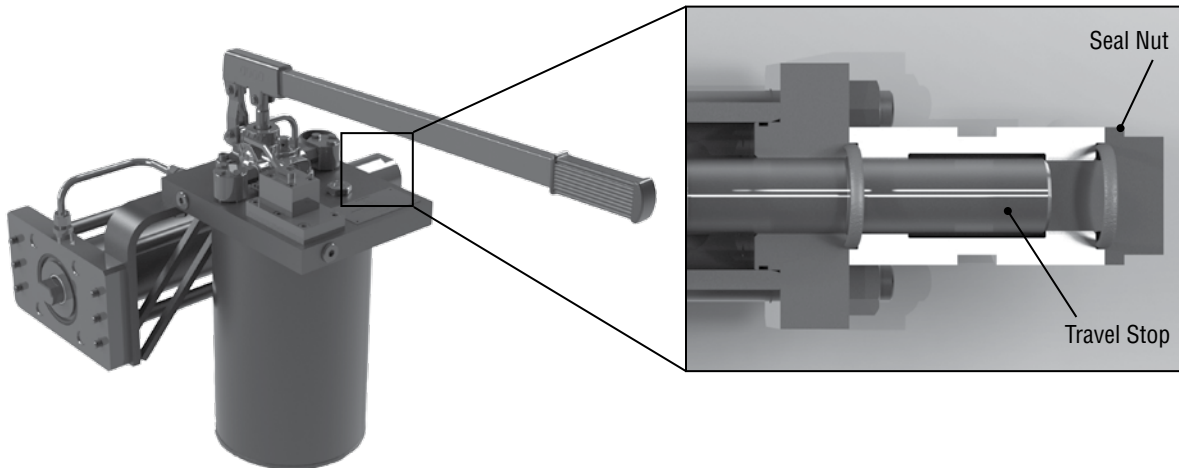

Figure 10 – Hydraulic Hand Pump Manual Override
- 3.1.1.1 Loosen the seal nut with a proper wrench (Figure 10).
- 3.1.1.2 While keeping the seal nut stationary, screw or un-screw the travel-stop (Figure 10) bolt using a proper Allen key.